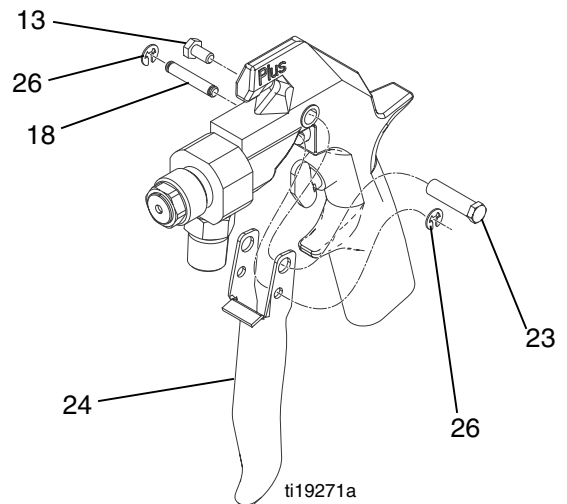

FIG. 7
4. Remove one e-clip (26) then push the pin (18) out of the gun. Remove the screw (13), pivot pin (23), and trigger (24). See FIG. 7.